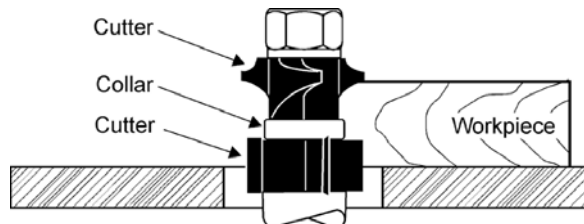

Figure 44
- Using the collar between the two cutters has the advantages and disadvantages of the first two procedures, and is frequently used where both edges of the work are to be molded, Figure 44.